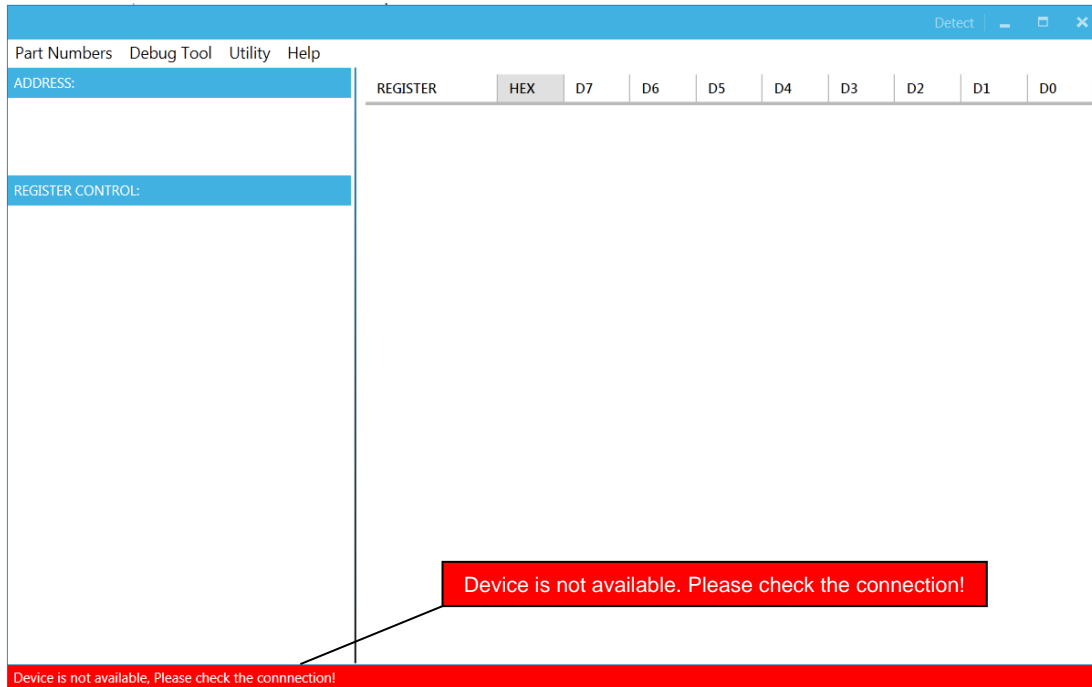

Figure 9: Warning Indicates Unsuccessful Connection – USBI2C Communication Interface Device is Not Connected
- 2) “Device is not available. Please check the Connection!” This means that the USB I2C communication interface device is not connected (see Figure 9).
The screenshot shows the same software window as Figure 9, but now it displays a table of I2C register values. The window title is 'EV8862-Q-00A 2.8-22V VIN,2A IOUT,4-SWITCH,INTEGRATED BUCK-BOOST CONVERTER WITH I2C INTERFACE'. The 'REGISTER CONTROL' section on the left has several options expanded: INTERRUPT, VOUT, CURRENT, CONTROL, and MASK. The table on the right lists registers with their names, hexadecimal values, and bit values for D7 through D0. A 'read all' button is located at the bottom right of the table area.